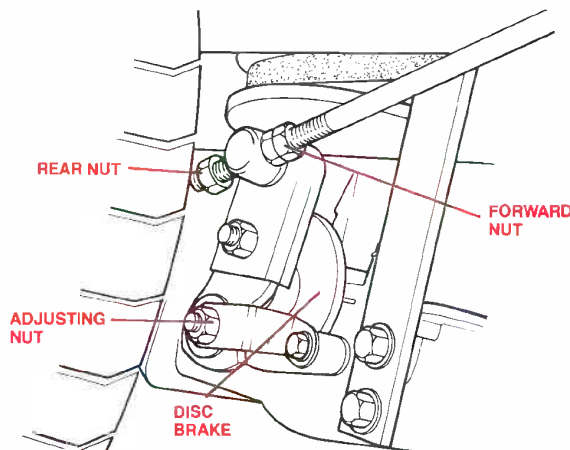

Figure 4. Tractor Brake Adjustment.
2. Find the adjusting nut at the Transaxle brake lever pivot, and note the two nuts on the brake rod. (See figure 4). The Transaxle's brake lever will apply the brake when moved in either direction. However on the Westwood Garden Tractor the brake is applied only by the forward nut